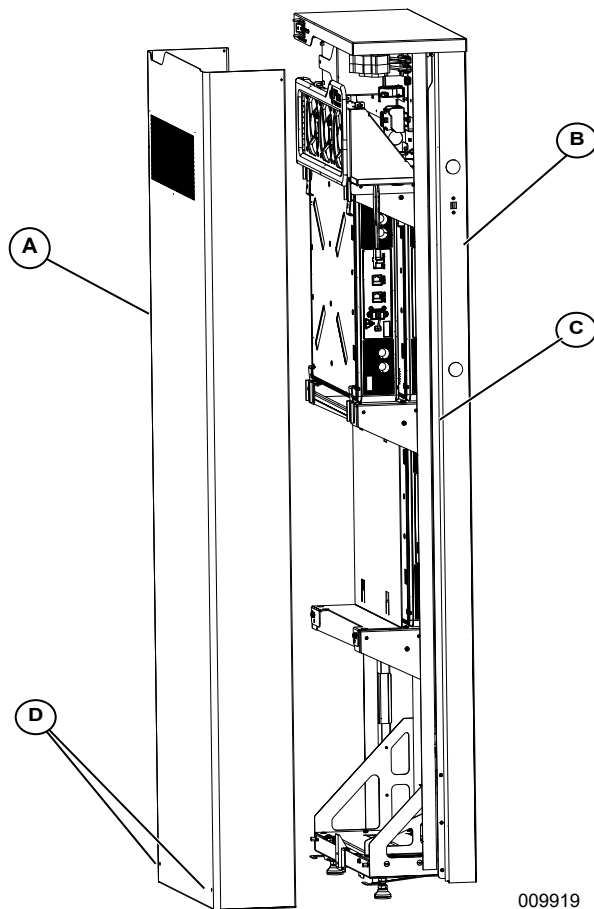

Figure 4-27. Installing Front Cover
1. See Figure 4-27. Place cover (A) upright in front of unit.
2. Slide cover straight back until it engages with body (B).
3. Verify all angled guides are tucked inside body. The back edges of the cover should be against the rubber gasket along their entire length (C).
1. See Figure 4-27. Remove M4X16 machine screws (D) securing cover (A) to body (B).
See Figure 4-27. Inside of the Generac PWRcell Battery, battery modules are stacked 2-deep on three levels, allowing for up to 6 modules to be connected in a series. In systems with less than 6 modules, Generac PWRcell can be upgraded with additional module up to a total of 6 modules.